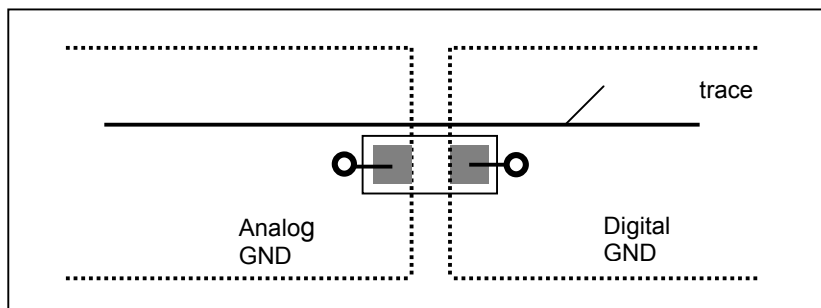

Figure 2-1 Capacitors Between Two Separate Ground Plane
- In order to let return current strays tightly bunched under the signal trace, the ground plane should be as complete as possible. If the ground plane under a system memory trace is separated, a 0.1uF capacitor is needed to add between the two separated planes near the traces as Figure 2-1. Routing on the ground plane is not recommended.